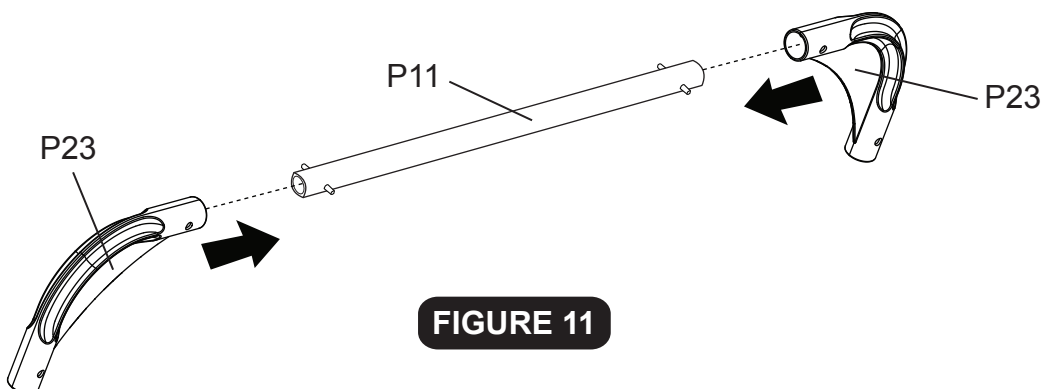

FIGURE 11
22. Snap **P23** L-Joint Plastic Parts to **P11** Front Tube using spring locks as shown in **FIGURE 11**.